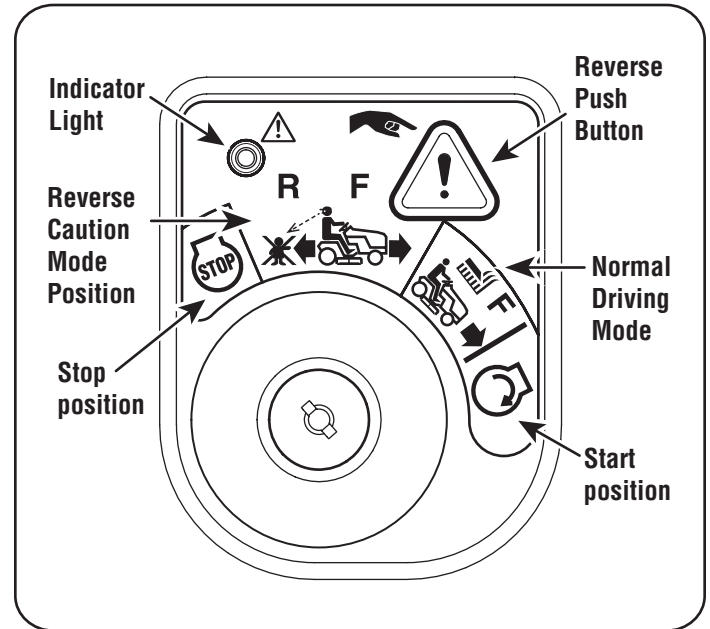

Figure 15
2. Turn the key from the NORMAL DRIVING MODE (Green) position to the REVERSE CAUTION MODE (Yellow) position of the ignition switch module. See Figure 15.
3. Depress the REVERSE PUSH BUTTON (Orange, Triangular Button) at the top, right corner of the ignition switch module. The red indicator light at the top, left corner of the ignition switch module will be ON while activated. See Figure 15.